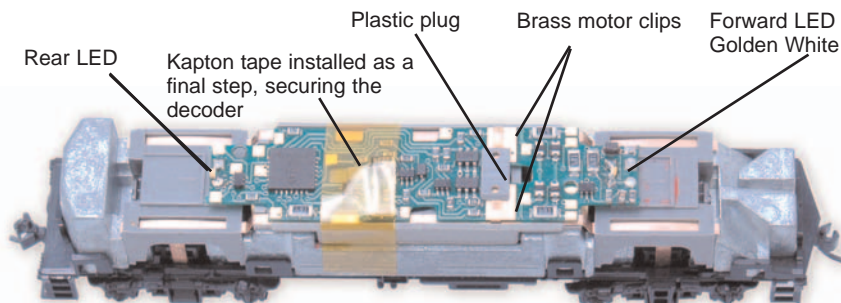

Figure 3: Install the decoder, bend brass motor clips over decoder, reinstall plastic plug to hold decoder in place.
6. **Make sure the Kapton tape wraps completely around the brass pick up rails.** Bend the motor clips down over the pads on the decoder. Reinstall the plastic plug to hold the motor clips tightly against the pads of the circuit board and the circuit board in place. If the plug is not secure, the motor will not function properly. **The final step in the installation process is to add a piece of Kapton tape extending from one side of the loco frame, up and across the decoder to the other side of the frame, thereby insuring the decoder remains securely in position** (see Fig 3 below)